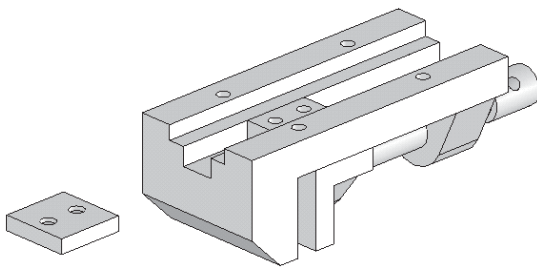

Figure 11-67 Rotated assembly
- Next, assemble the Clamping Plate, refer to Figures 11-67 through 11-70.
2. Rotate the assembly such that the bottom face of the assembly is displayed, as shown in Figure 11-67.